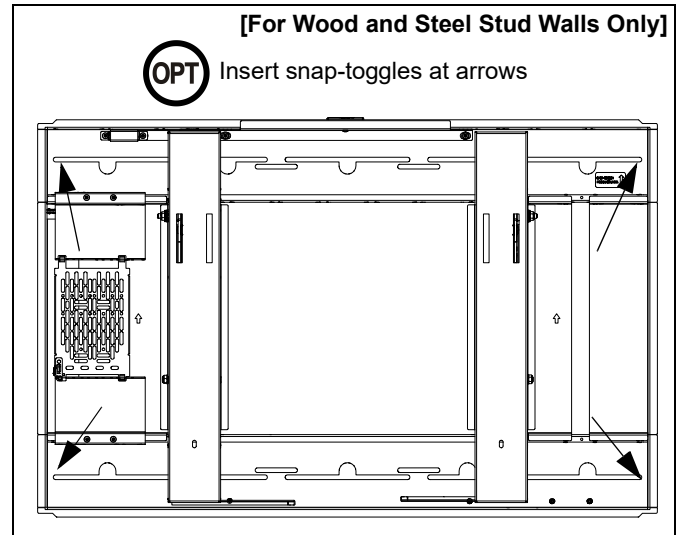

Figure 10
**IMPORTANT !** : **(OPTIONAL for wood and steel stud installations)** For additional rigidity in the installation, use a Snap-Toggle (AC), 1/4-20 x 1-3/4" Phillips screw (AD) and 1/4" washer (AE) at each corner of the rear frame if it is not attached to the studs at those points. (See Figure 10)
**IMPORTANT ! : (OPTIONAL for wood and steel stud installations)** For additional rigidity in the installation, use a Snap-Toggle (AC), 1/4-20 x 1-3/4" Phillips screw (AD) and 1/4" washer (AE) at each corner of the rear frame if not attached to the studs at those points. (See Figure 10)